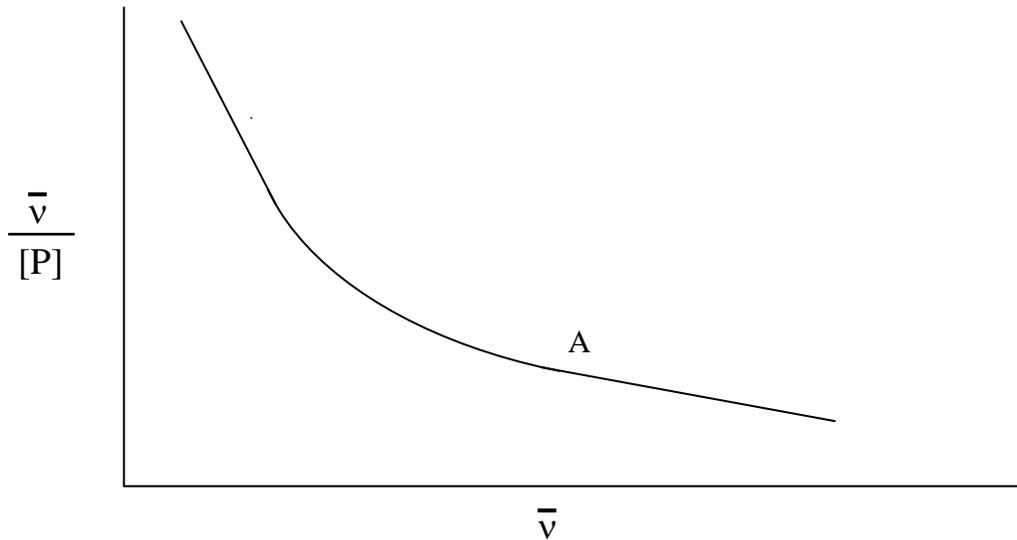
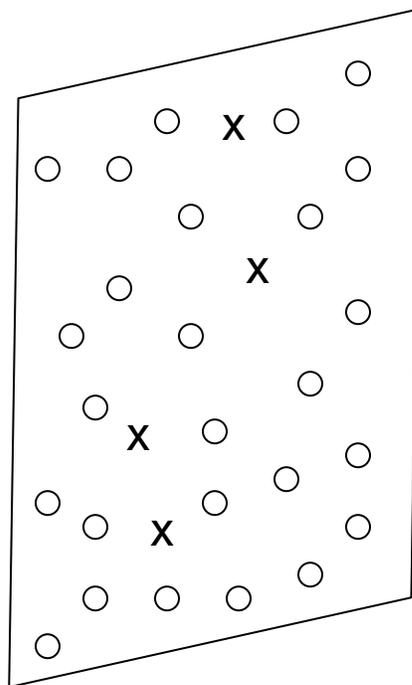

Fig. 2.1
Fig. 2.2
2. A company has performed experiments to determine the adsorption of a particular adhesion protein to its bone-bonding material, and has generated the graph in Fig. 2.1.
- The manufacturer has proposed the model in Fig. 2.2 (drawn close to scale) to explain the results. It notes that "o" and "x" are two non-interacting binding sites. Do you agree?
- The company notes that it has a new material with 10 times more binding sites than the material in Fig. 2.2. It claims that this should lead to better tissue bonding. Do you agree?
- Assuming that the model in Fig. 2.2 is correct, how would you recommend changing the relative number of "o" and "x" binding sites for the material to function more effectively if the conditions are those at region A in Fig. 2.1.